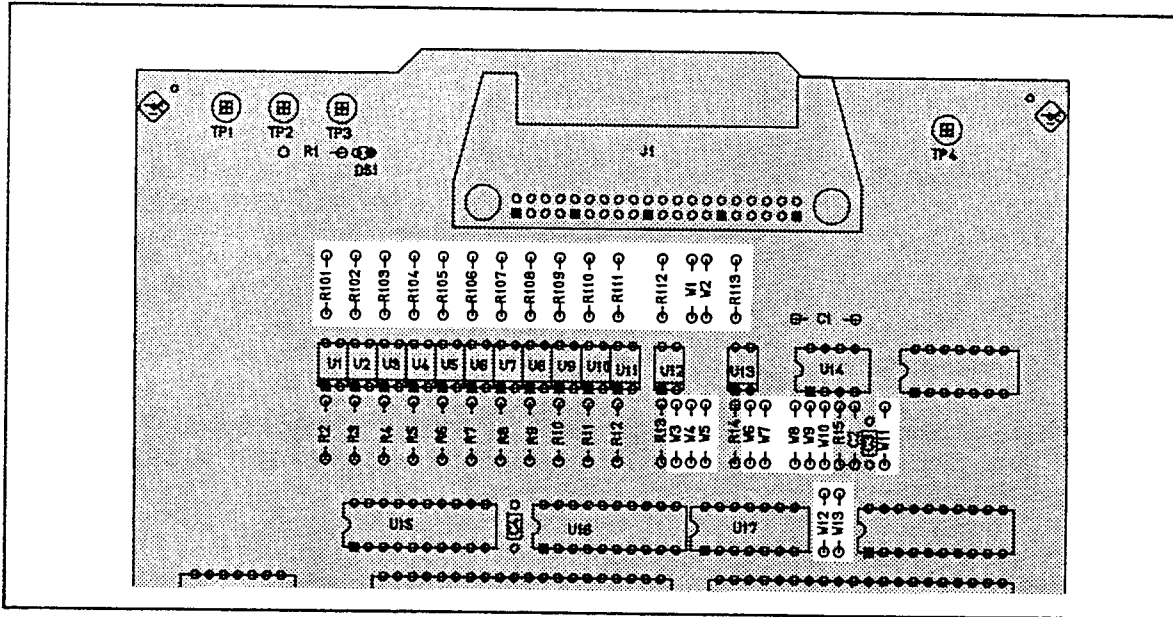

Figure 6-14. Jumper Settings
(1) ORANGE and BROWN (See Figure 6-14)